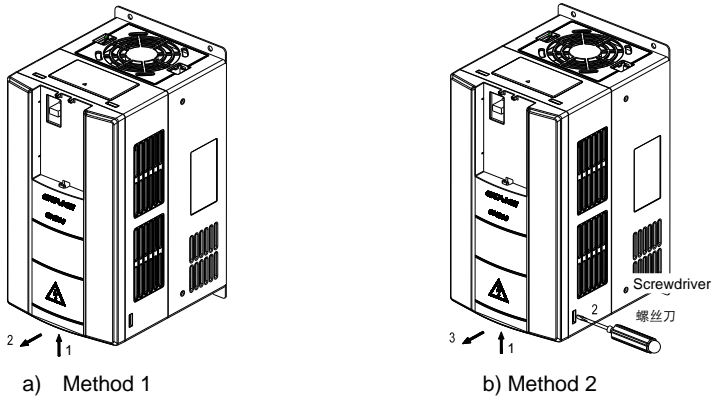

Fig. 3-5 Open cover
**Method 1:** loosen the captive cover screws as shown in Fig. 3-5 a) (provided only for 11/15kW model), hold the left and front sides of middle housing with left hand, put the right thumb into the buckle and press tightly on cover with the other four fingers, pull the lower part of the cover out to release, as indicated by number "2".
**Method 2:** loosen the captive cover screws, as indicated by number "1" in Fig. 3-5 b) (provided only for 11/15kW model), use a sizeable slotted screwdriver to push the buckle slightly at the lower part of the cover to make buckle naturally off the groove, as indicated by "2", pull the cover out to release, as indicated by number "3".